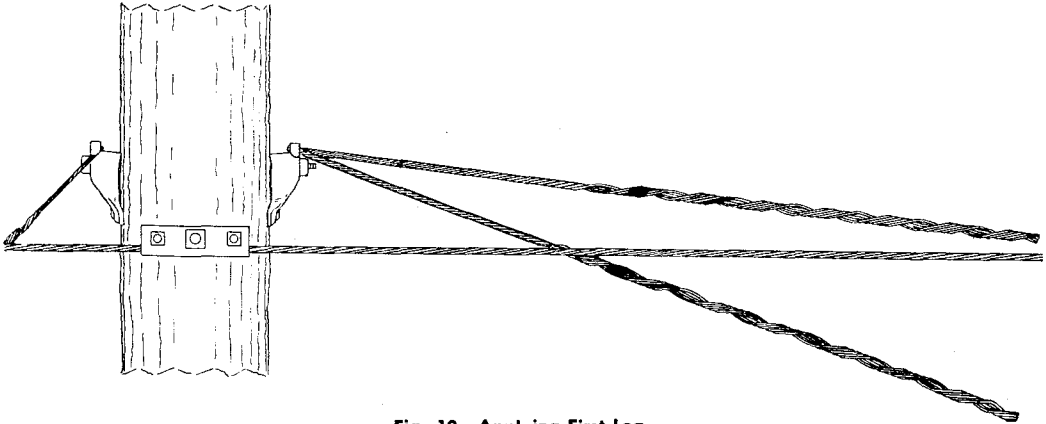

Fig. 10—Applying First Leg
(1) Attach the closed end of the false deadend to the pole attachment. Starting at the paint mark, **apply one half of the leg which is nearest the strand first.** Bend the leg out and away from the strand as it is applied. The application of the first leg is illustrated in Fig. 10.